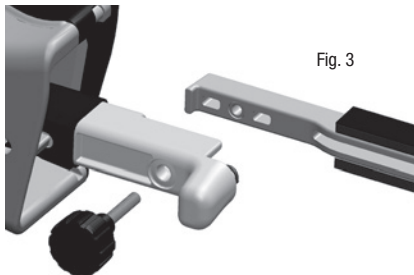

Fig. 3
7. Remove the Contact Arm and replace with the desired arm. Make sure the tab on the end of the arm is in the channel of the Tracking Arm Mount. (See Fig. 3.)